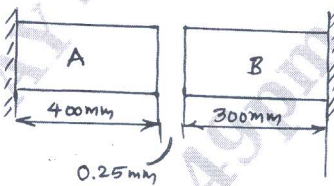

Fig Q2(b)
- b. At room temperature the gap between bar A and bar B is shown in Fig Q2(b) is 0.25mm, what are the stresses induced in the bars. If the temperature rise is 35°C.